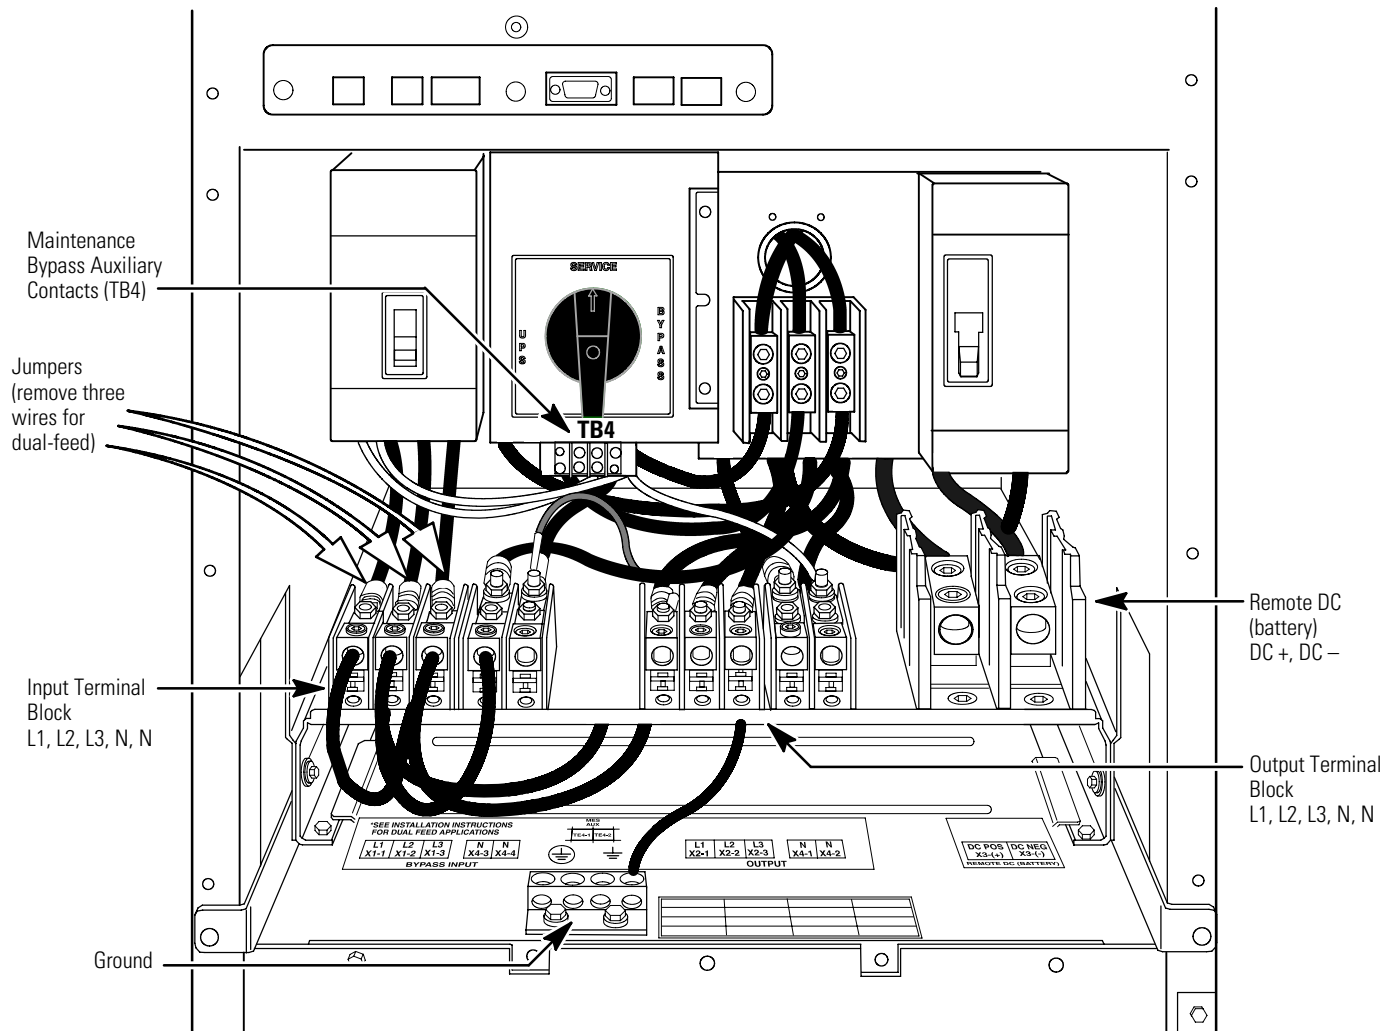

Figure 6. UPS Terminal Block
See Table 1 for specifications and Figure 6 for a detailed view of the UPS terminal block.
- 22.** Wire the maintenance bypass auxiliary contacts and terminate to the maintenance bypass wires in the Tie Cabinet (see Figure 6 on page 12).